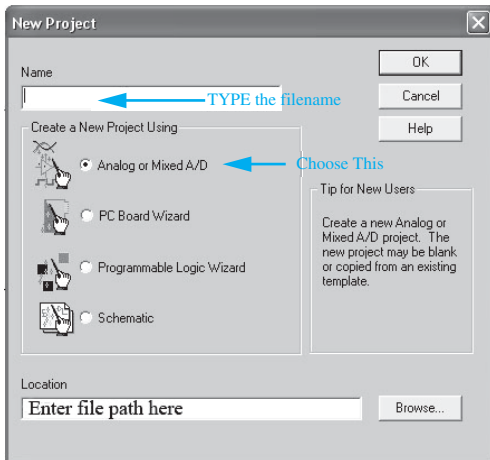

FIGURE 2.60 New project.
3. A window (as shown in Figure 2.60) will pop up. Type a filename of your choice, for example, “Test01.” Next, you will choose from among the different categories of projects allowed by PSpice, including the following:
In this book, we mainly deal with analog or mixed A/D circuits. As such, choose the option “Analog or Mixed A/D project,” as shown in Figure 2.60, and press OK. The file can be saved in a location of your choice.